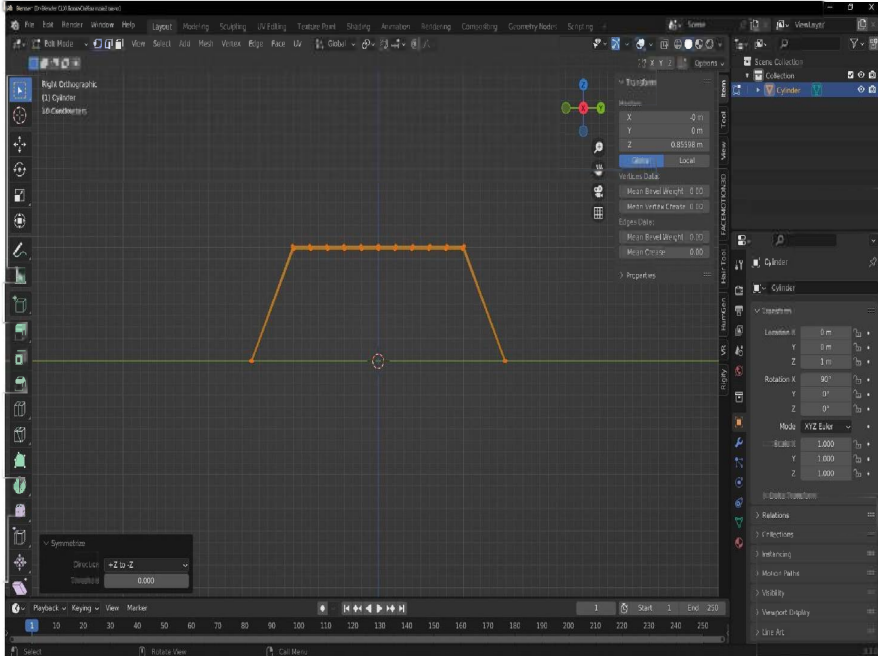

Figure 9.11: Rope object Symmetrized across the z axis
18. From the **Symmetrize contextual menu**, switch the Direction to **+ Z** to **- Z**, as shown in *Figure 9.11*: